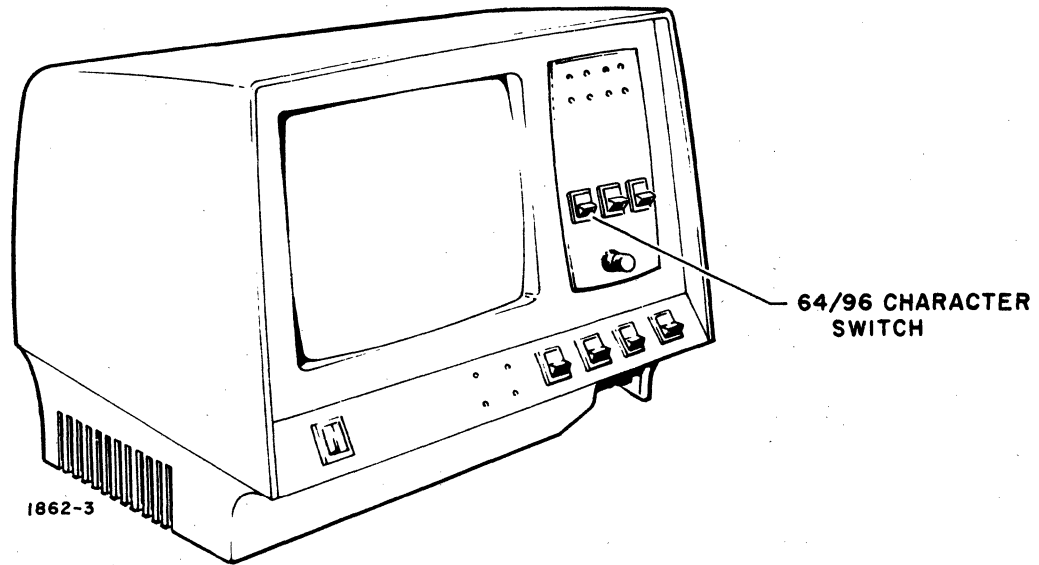

Figure CRT40. 64 CHAR/96 CHAR Switch
- a) Set 64 CHAR/96 CHAR switch to 96 CHAR (figure CRT40).
- a) Set 64 CHAR/96 CHAR switch to 64 CHAR (figure CRT40).